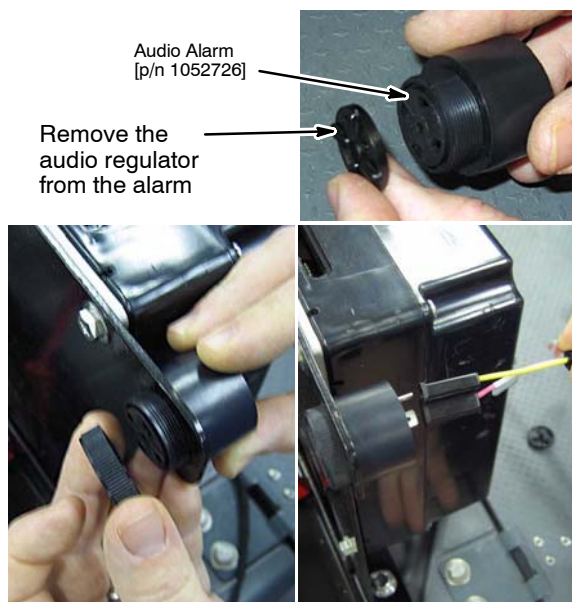

Fig. 38
9. Install the *ec-H2O* audio alarm [p/n 1052726] and connect the *ec-H2O* wire harness (Figure 38).